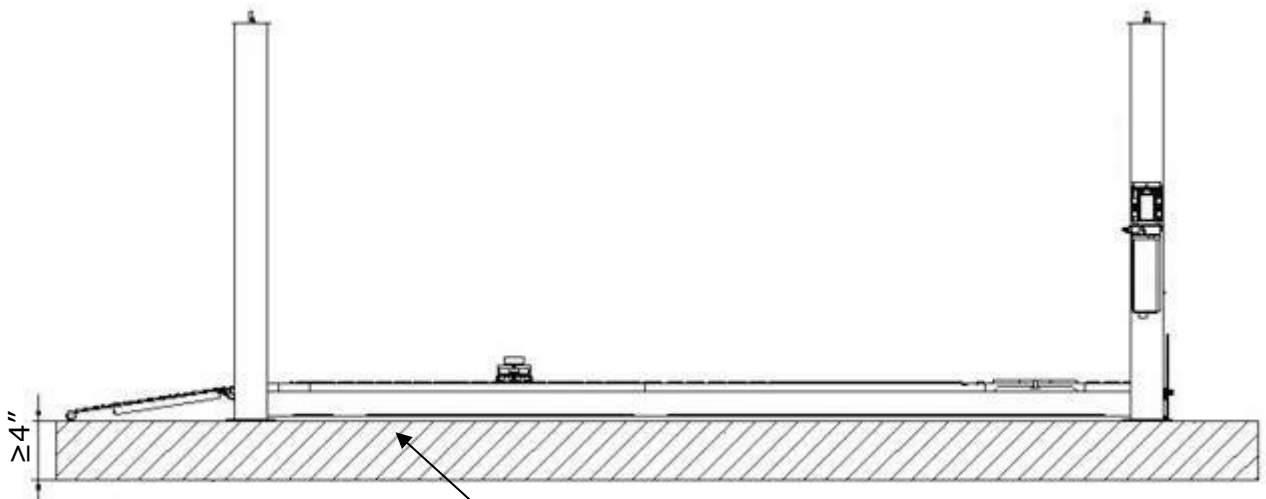

Fig. 4 Concrete Intensity must be 3000PSI minimum
C. SPECIFICATIONS OF CONCRETE (See Fig. 4)